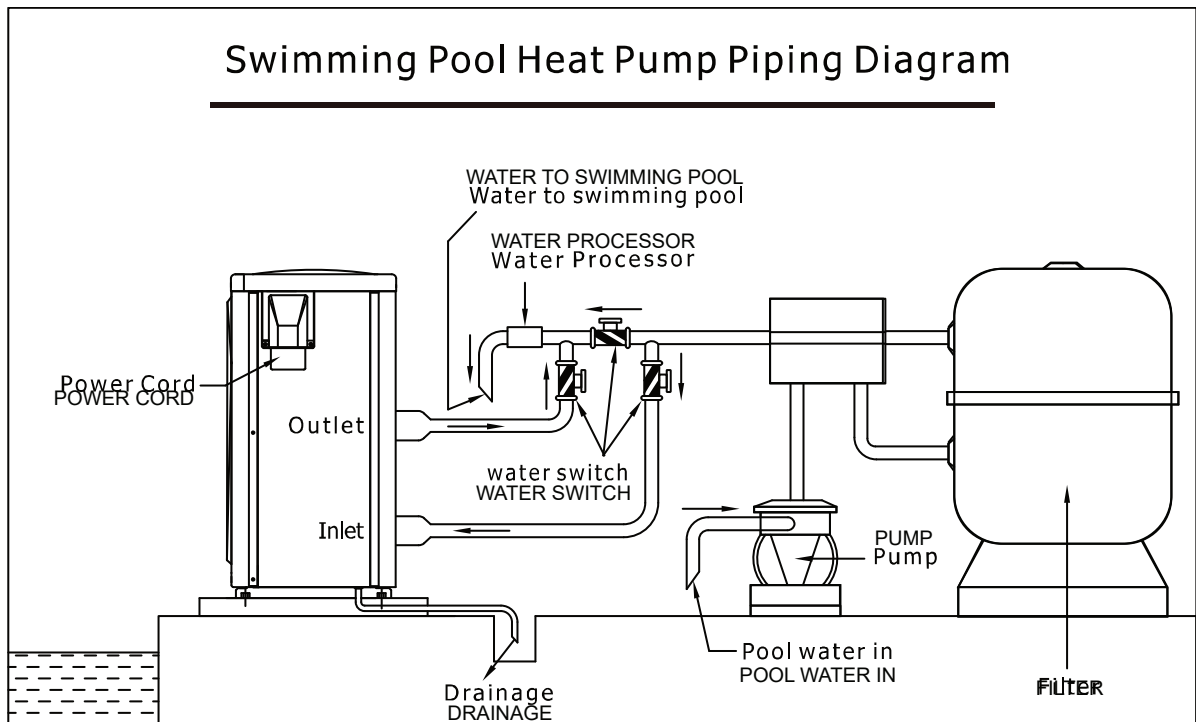

Figure 10. Drawing and Piping Layout for reference only
See plumbing diagrams starting with **Figure 10**.
1. Connect the heater in the return water line between the filter and the pool/spa. See the Plumbing Diagrams beginning with **Figure 10**.
Please refer to the plumbing diagrams, starting with **Figure 10** for further instruction.